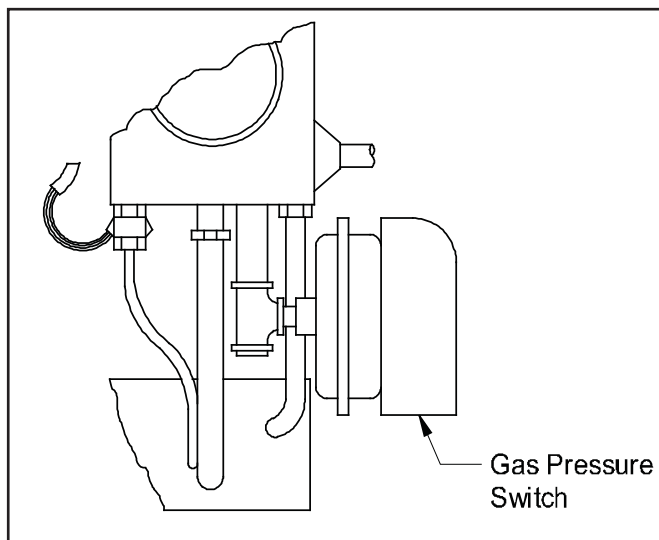

Figure 5
3. Install the gas pressure switch into the side of the pipe tee. The gas pressure switch is supplied with a restrictor orifice in the inlet and outlet ports. With these orifices in place, the switch does not need to be vented. This feature complies with current ANSI standards for gas regulators. (See Figure 5)